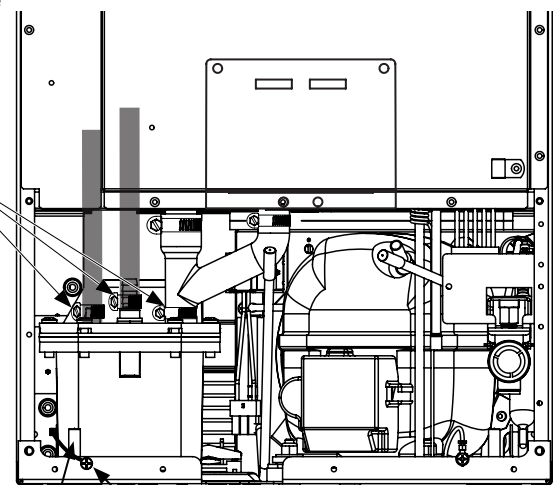
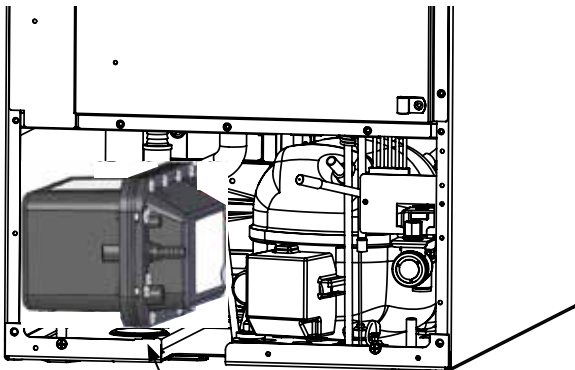

Figure 45
Figure 49
4. Unscrew the 3 hose clamps and remove the 3 hoses from the front of the drain pump. (See Figure 45).
6. Rotate the drain pump and remove from the ice machine, (See Figure 49). It may be necessary to disconnect the ground wire connection in the back flange of the cabinet. (See Figure 45).